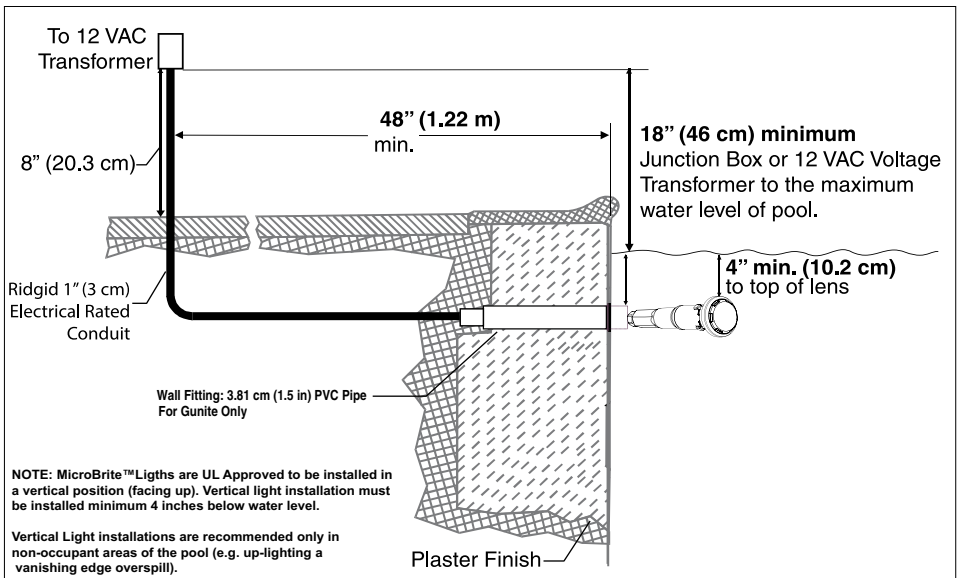
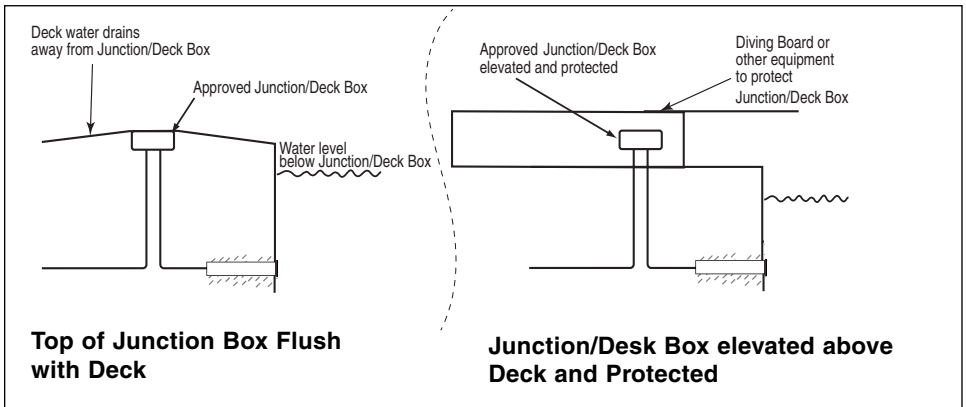

Figure 1.
Figure 2, Canada.
**BEFORE STARTING: The following information describes the tasks that must be completed by the electrician *before* the light wall fitting is installed. See Figure 1.**
- The Junction Box and the low voltage transformer is located at least 4 (four) inches (10.16 cm) above ground level or eight (8) inches (20.3 cm) above maximum water level, whichever is higher. The Junction Box must be at least 48 inches (1.22 m) from the edge of the pool. See Figure 1.
- The junction/deck box must be sealed to the conduit to prevent water from getting into the box, see Figure 2, below.
2. At the 12 VAC transformer or junction box, cut off any extra cord. Leave at least 15.2 cm (6 in) of cord in the Junction Box or transformer to facilitate the light installation wall fitting inspection. Cut off any extra cord. See Figure 1 on page 4, for junction box installation for USA, see Figure 2 on page 5 for junction box installation in Canada.
3. Connect the two (2) conductors to the corresponding circuit wires in the Junction Box. Secure the Junction Box cover.
- The Junction Box and the low voltage transformer is located at least 4 (four) inches (10.16 cm) above ground level or eight (8) inches (20.3 cm) above maximum water level, whichever is higher. The Junction Box must be at least 48 inches (123 cm) from the edge of the pool. See Figure 1 on page 4.
- The MicroBrite light wall fitting must be properly installed so that the top edge of the lens of the MicroBrite light is at least 4 inches (10.16 cm) below (not more than 48 inches (123.cm) below in Canada) the surface of the water in the pool or spa. See Figure 2 on page 5.